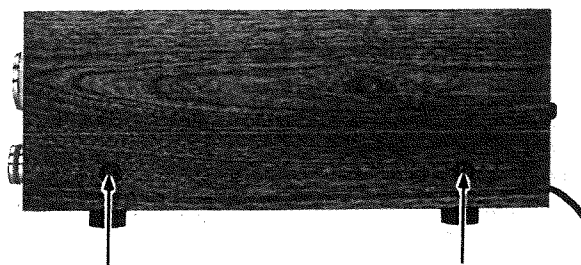

Figure B2
- Remove two screws from each side of the Cabinet (Figure B2) and pull off Cabinet toward rear of unit.